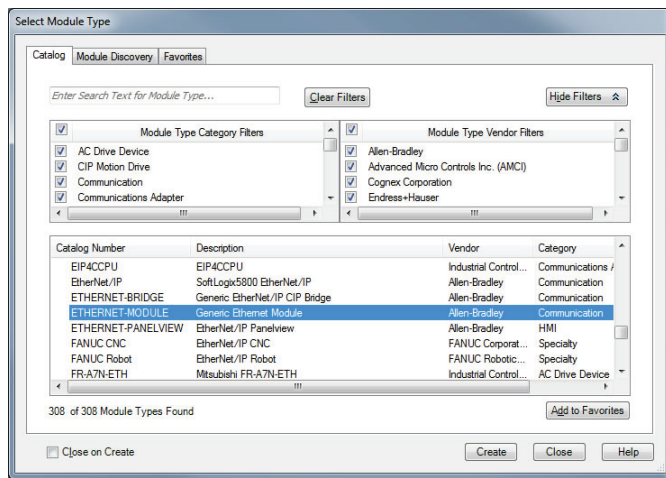

Figure 41: Adding a New Generic Ethernet Module
- 3) Choose "Generic Ethernet Module" in the Select Module dialog box and click "Create". Refer to Figure 41.